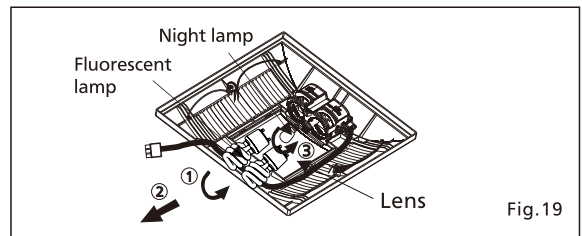

Fig. 19
4. Replace the fluorescent lamps (Maxlite MLS13GU35 13W) as shown in step ① and step ② of Fig. 19.
5. Replace the 4W night lamp (Max 4W incandescent lamp). (Fig.19)